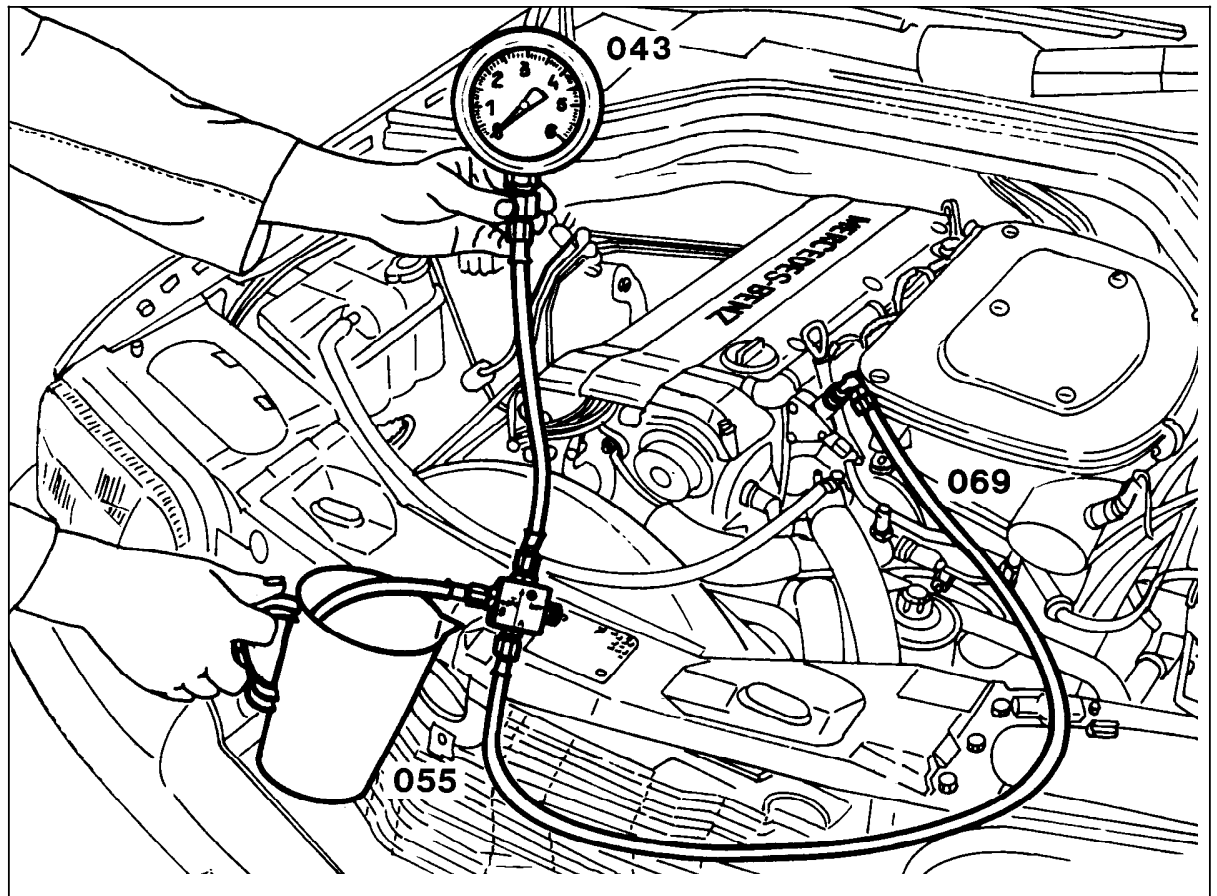

Figure 1
- After completing test, using measurement glass (055), release fuel pressure and allow residual fuel to drain into glass (see Figures 1 and 2).